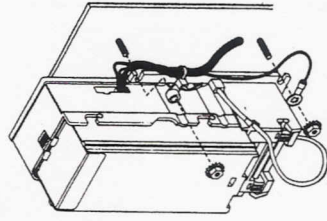

Figure 5
4. Install the VN2500 onto the Bill Acceptor mounting studs and through the mounting hole of the vending machine. Secure using the appropriate hardware. **NOTE:** On 110V units, attach the enclosed tie-wrap to the mounting stud closest to the harness connection on the Bill Acceptor. Pull tie-wrap tightly around harness wires, including ground wire (equipped with ring terminal), to provide strain relief. See Figure 5.
5. On 110V units, place the ring terminal of the ground wire onto one of the mounting studs and secure with appropriate hardware. See Figure 5. **IMPORTANT NOTE TO OEMs: Step 5 must be performed prior to Machine Dielectric Voltage - Withstand (Hi-Pot) Testing.**